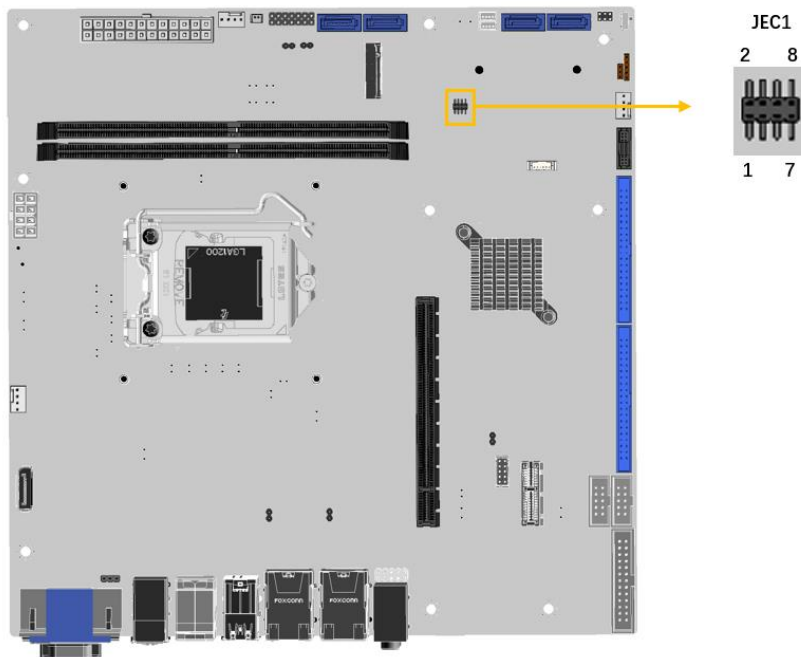

Figure 3-25: Flash EC ROM Connector Location
- CN Location:** See **Figure 3-25**